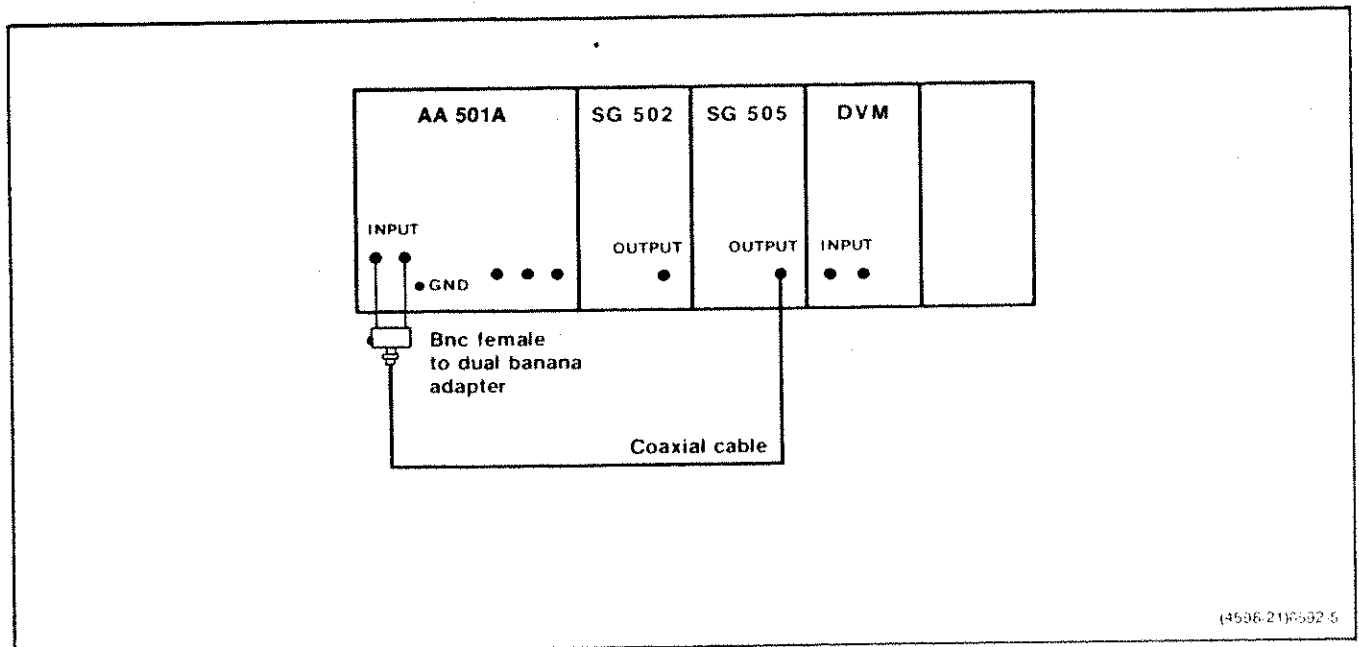

Fig. 4-4. SMPTE residual intermodulation distortion check/adjust.
a. Connect the test equipment as shown in Fig. 4-4.